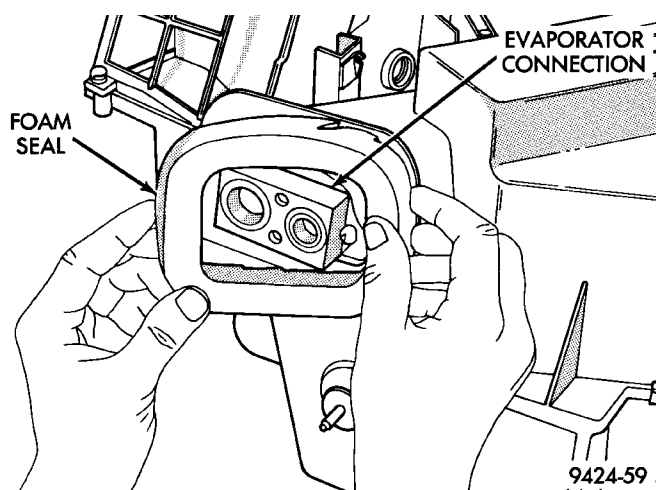
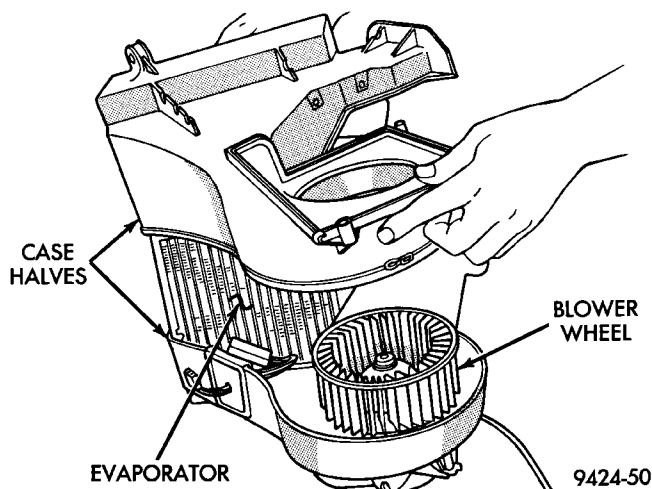

Fig. 30 Foam Seal Removal
Fig. 31 Case Separation
(1) Remove the clips and screws that hold the Unit Housing to the Evaporator/Blower Module. Then separate the two units.
(2) Remove the evaporator to dash panel foam seal (Fig. 30).
- (3) Disconnect fin sensing switch from harness.
- (4) Remove upper to lower case retaining clips and screws.
- (5) Separate the case halves (Fig. 31).